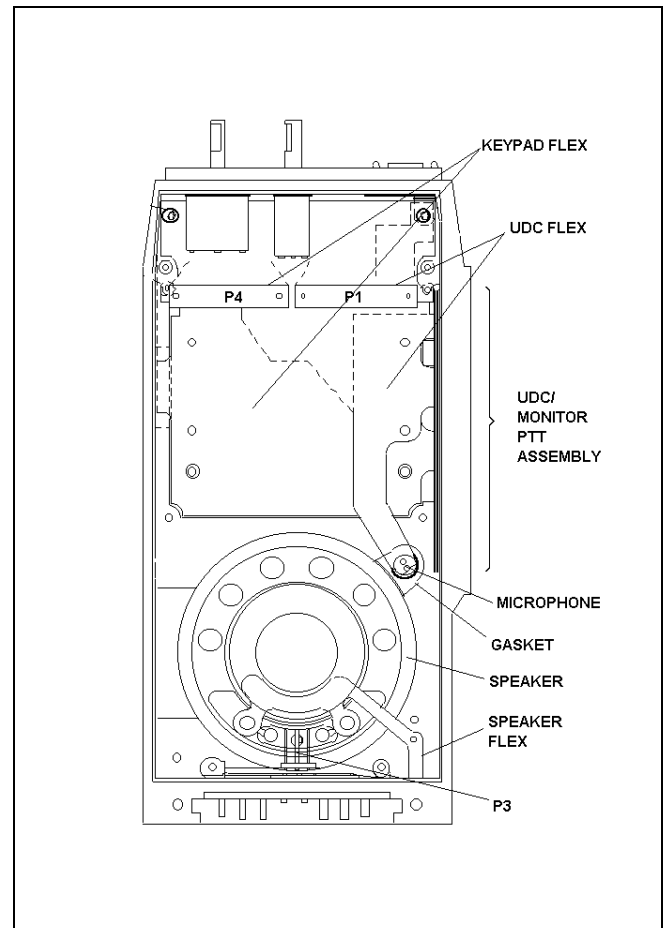

Figure 9 - Speaker, Microphone and Flex Circuit
Remove the Control Board as previously stated and then remove the six (6) TORX® screws that secure the die-cast shield. Remove the die-cast shield by lifting the top end first and sliding it towards the top of the radio. The internal speaker, microphone, Keypad and UDC Flex circuits are not partially accessible. See Figure 9.